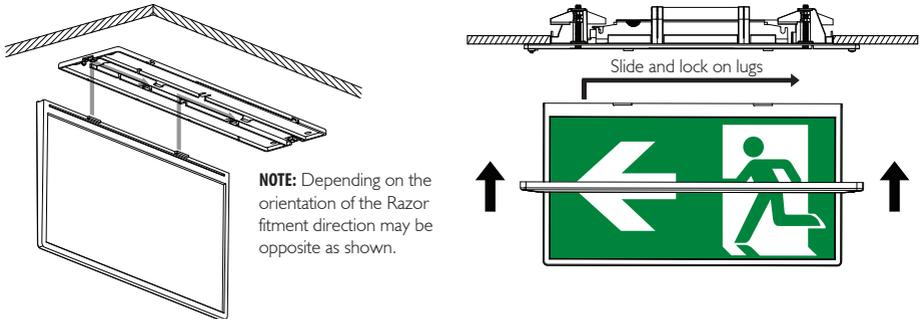

Figure 3: Razor re-assembly diagram
- The surface mount cover must be fastened to the ceiling first. Once the cover has been securely mounted the Razor may be assembled by sliding the emergency light parts into place as shown in **Figure 3** and in the diagram below (refer to the **02981 EV-RAZOR-LED-FIRE-SM-KIT** instructions for more details).